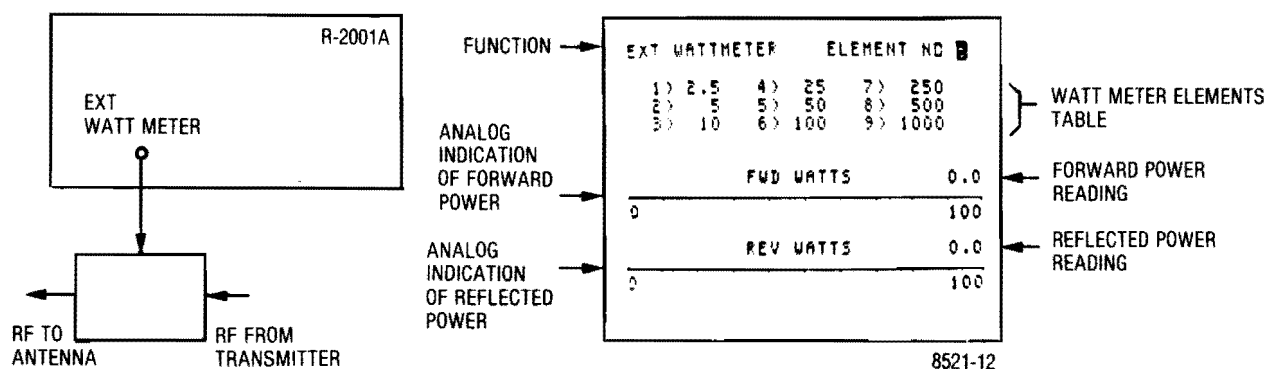

Figure 4-7. Wattmeter Test Setup and CRT Display
**4-13. EXT WATTMETER.** When the analyzer DISPLAY is set to the Ext Wattmeter mode and the Motorola RTL-4055A in-line wattmeter adaptor (supplied) is connected to the Ext Wattmeter jack the analyzer measures both forward and reflected power. The power rating of the wattmeter elements (Motorola ST-1200 series\*), to be used, are displayed on the CRT. The following is an example of a test setup for external wattmeter operation. Figure 4-7 shows the test set connections and CRT display.